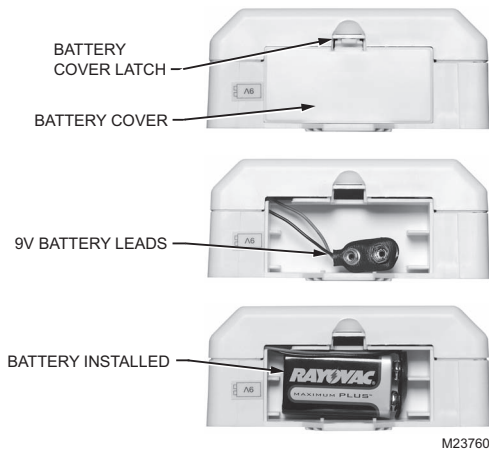

Fig. 19. Battery Installation.
1. Press the latch on the top of the battery cover and pull it down and away. See Fig. 19.